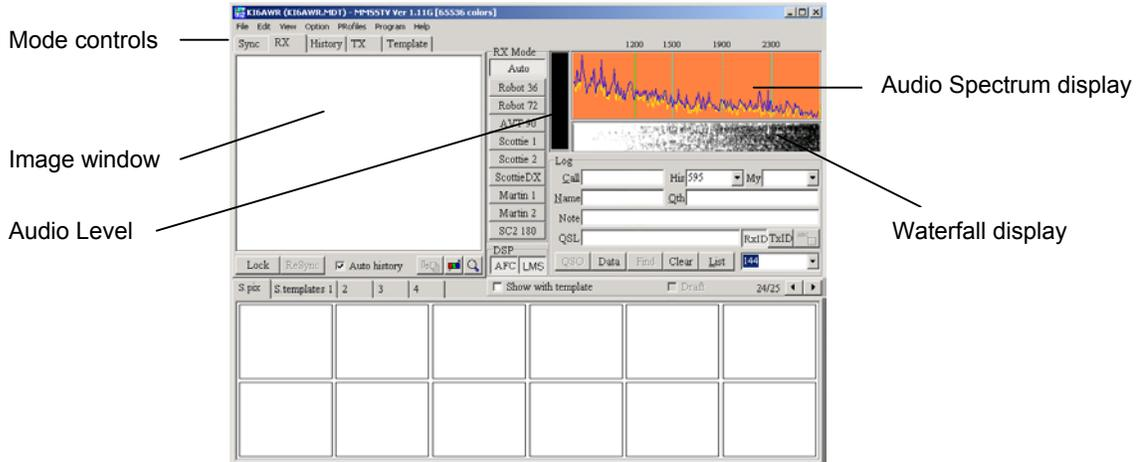
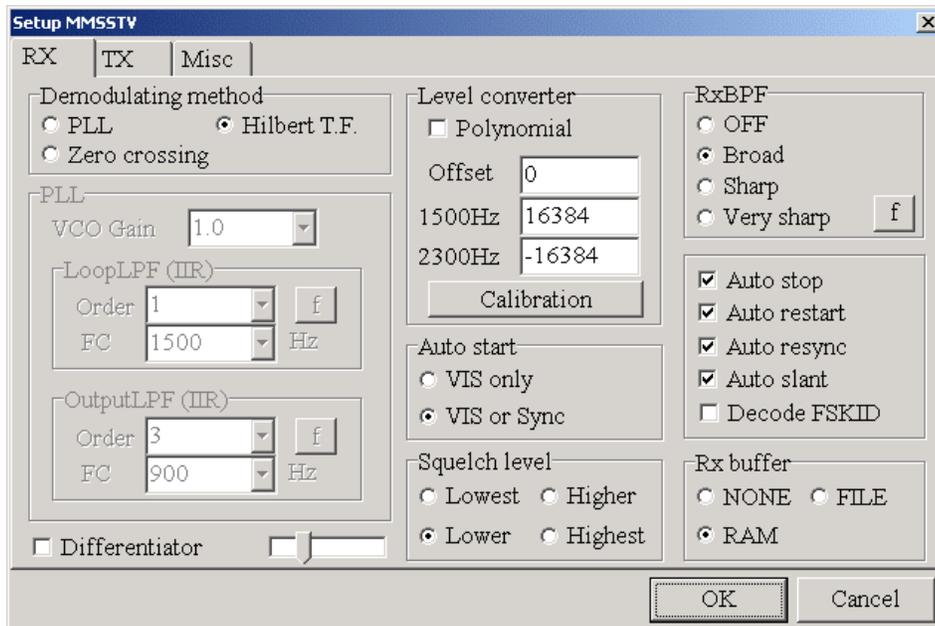

Figure 2. MMSSTV Receive screen (blank)
Figure 5. MMSSTV RX Setup screen
For instant gratification, connect up the interface between the transceiver and the PC, tune into an SSTV transmission, click the RX button (mode controls in Figure 2), and watch the picture appear in the image window.
- While receiving an image, set the line in or microphone level controls so that the Audio Level bar (Fig 2) is about 50% If you can't find an image find a voice transmission and set the level to about 30%.
MMSSTV will start to receive automatically as soon as it detects a valid SSTV signal as long as the **Auto** button is set on the RX page (Figure 2). It determines this based on the setting of the Auto start section of the Set MMSSTV tab (center of Fig 5).